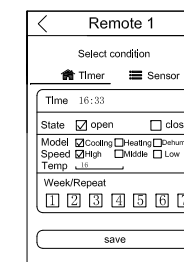

Fig.9
- b.Press "+" at the top right corner to access to the interface as Fig. 9. User can add timer or sensor control in the APP. Press "Save" to save all the settings.